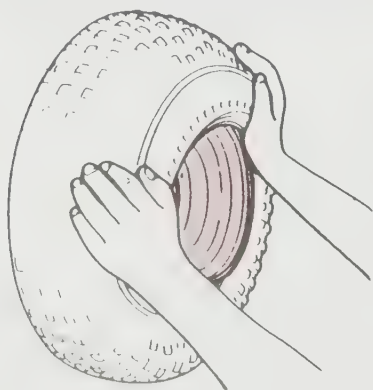

Figure 14-41. Installing an ATV tubeless tire.
3. Install the tire on the wheel rim by hand as illustrated in **Figure 14-41**. To simplify the installation, do so at a point where the rim shoulder width is the narrowest.